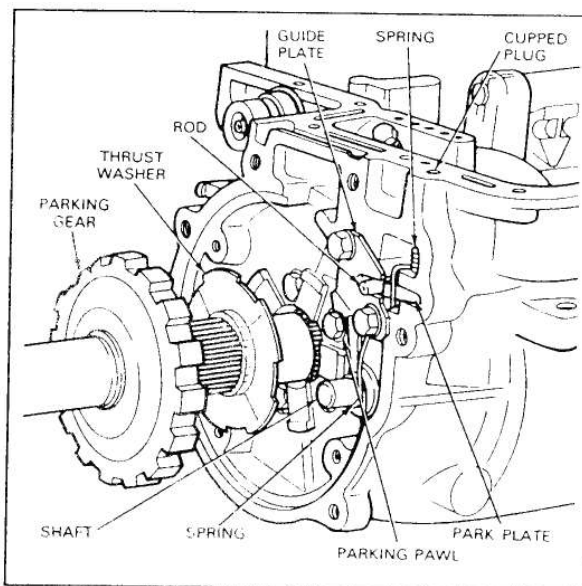

FIG. 31 Parking Pawl Mechanism
- Remove the bolts securing the parking pawl guide plate to the case (Fig. 31). Remove the plate.